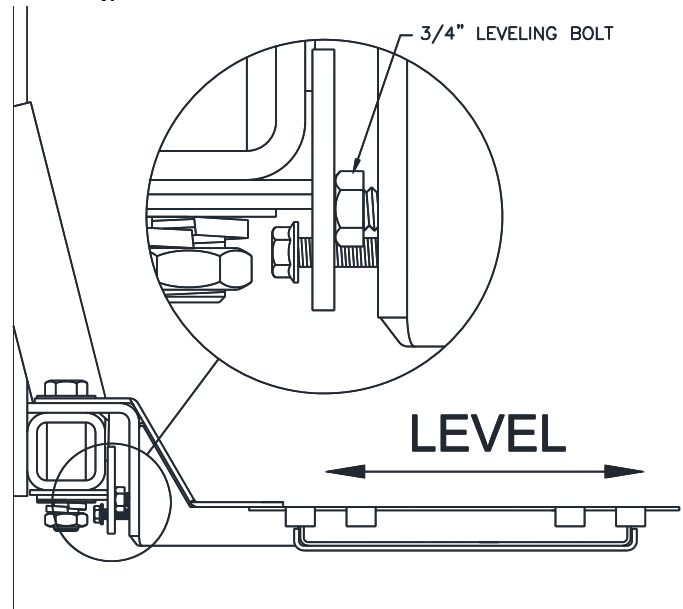

Fig. 4 LEVELING THE PAD ADAPTERS
4. Raise the lift to a comfortable working height and adjust the 3/4" Leveling Bolts (2 per side) until Pad Adapters are level side-to-side, **Fig. 4**.